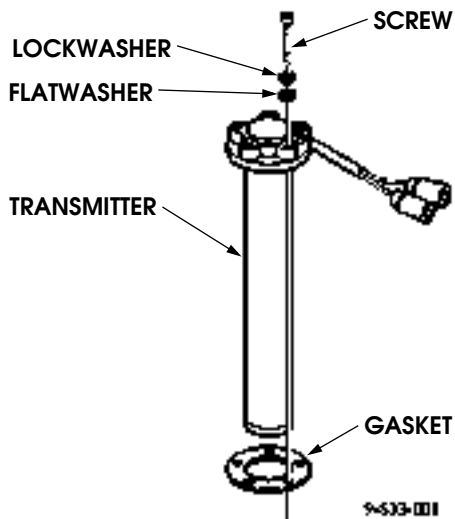

Figure 3-36: Fuel Level Transmitter in Upright or Empty Position
1. Hold transmitter in the upright or empty position (Figure 3-36).